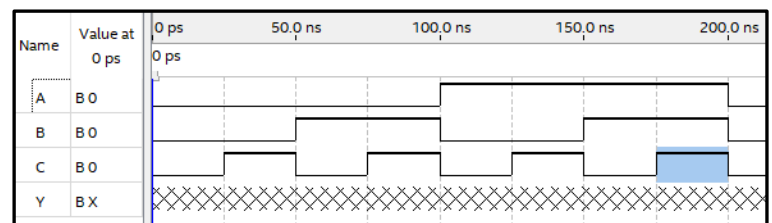

Figure 9: Vwf with manual inputs
- Manually manipulate your signals to match the image in Figure 9. Save this simulation design.